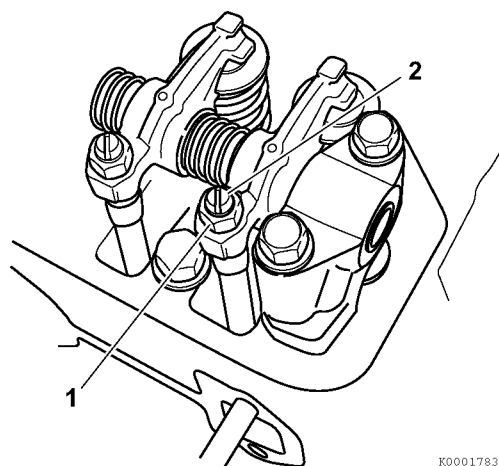

Figure 6-39
5. Loosen the valve adjusting screw lock nut (Figure 6-39, (1)) and valve adjusting screw (Figure 6-39, (2)) on the rocker arm and check the valve for inclination of the valve cap, entrance of dirt, or wear.
6. Insert a feeler gauge of the correct thickness (Figure 6-40, (1)) (see *Adjustment Specifications* on page 6-4) between the rocker arm and valve cap. Turn the valve adjustment screw to adjust the valve clearance so there is a slight “drag” on the feeler gauge when sliding it between the rocker arm and the valve cap. Hold the adjusting screw while tightening the valve adjusting screw lock nut (Figure 6-39, (1)). Recheck the clearance.